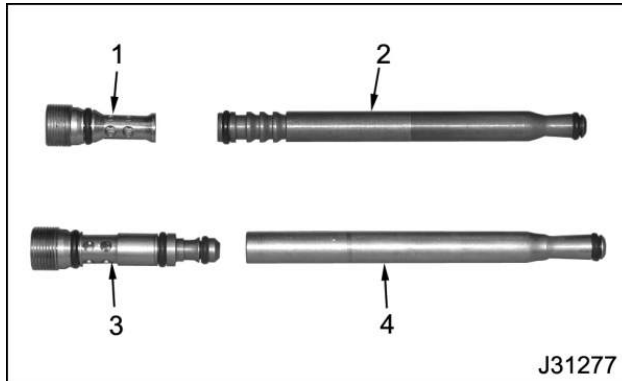

Figure 6 Crankcase-to-Head Tube Assemblies
NOTE – On occasion, the case-to-head tube (lower) will come out along with the case-to-head plug. If this occurs, discard entire case-to-head tube assembly. Refer to case-to-head tube assembly (Figure 6).
17. Using the needed service tool (Figure 7), remove the crankcase-to-head tube assembly from the high-pressure oil rail (Figure 6, Item 4). If the tube cannot be removed due to chassis interference, go to Step 20.
NOTE – The lower crankcase-to-head tube (Item 4, Figure 6), used with the long crankcase-to-head tube plug, may remain in the crankcase.
26. Lubricate the D-rings on the case-to-head tube (Figure 6, Item 4) with clean engine oil and install into the branch tube.
27. Install right case-to-head tube plug (Figure 6, Item 3) and rail port plug.